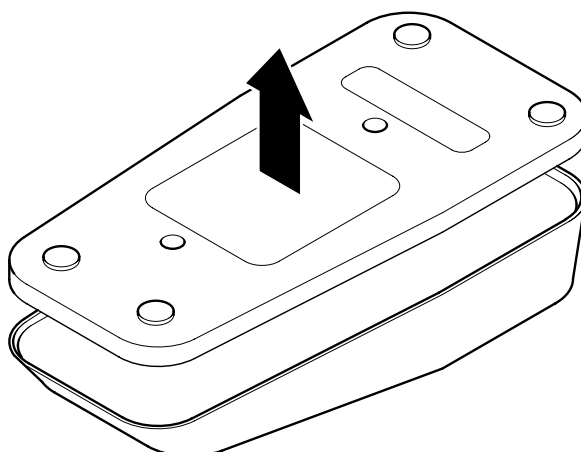

Figure 19: Case removal
2. (Figure 19) Remove the case from the cover assembly.